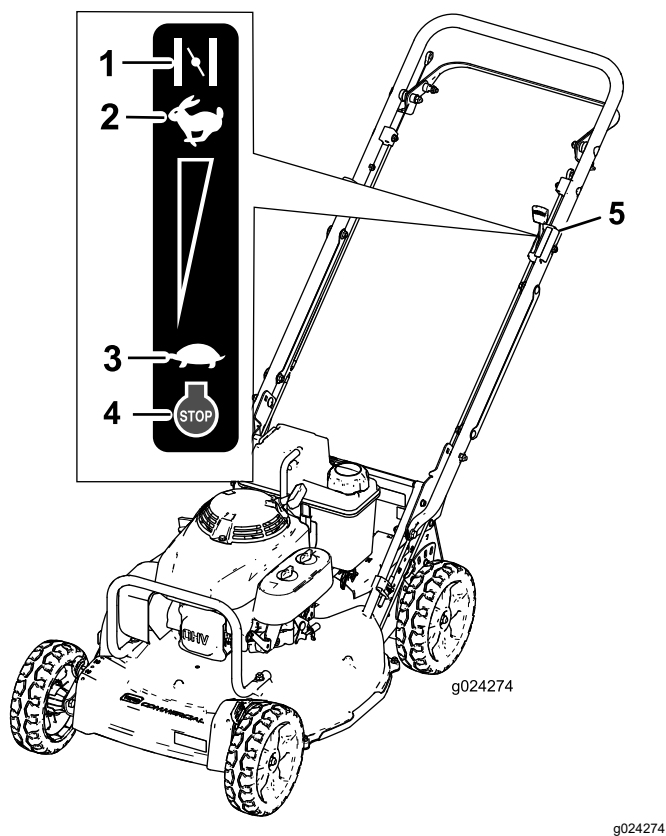

Figure 15
3. Move the throttle-control lever to the Choke position (Figure 15).
5. When the engine starts, move the throttle-control lever to the Fast position (Figure 15).
Release the blade-control bar and move the throttle-control lever to the Stop position (Figure 15).